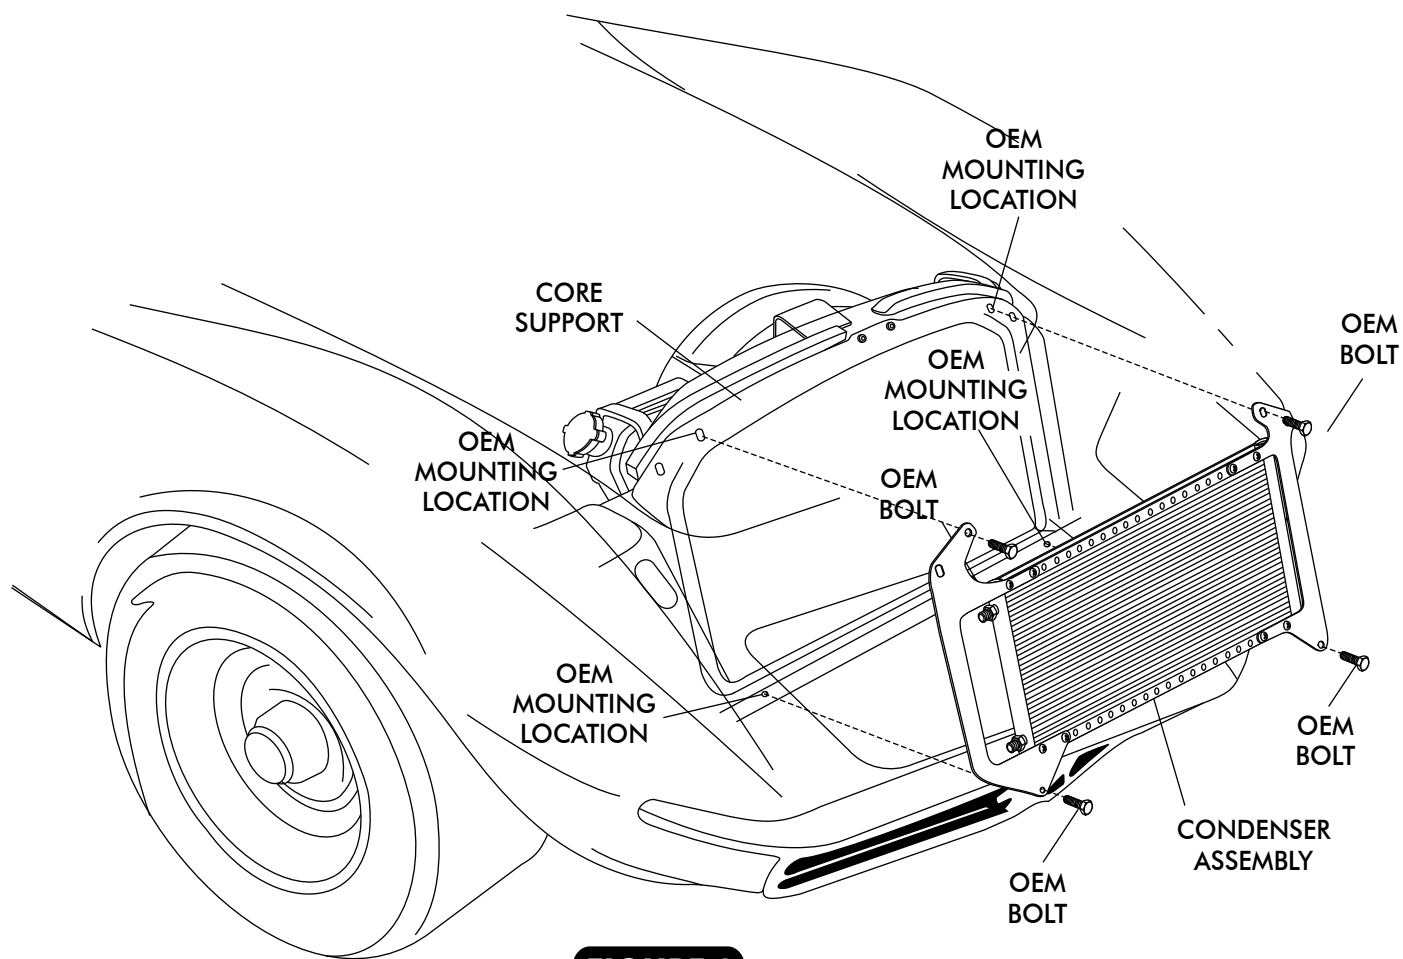

FIGURE 2
- ☐ INSTALL CONDENSER ASSEMBLY BY PLACING THE CONDENSER ON THE FRONT SIDE OF THE CORE SUPPORT AND ALIGN WITH OEM MOUNTING HOLES AS SHOWN IN FIGURE 2.